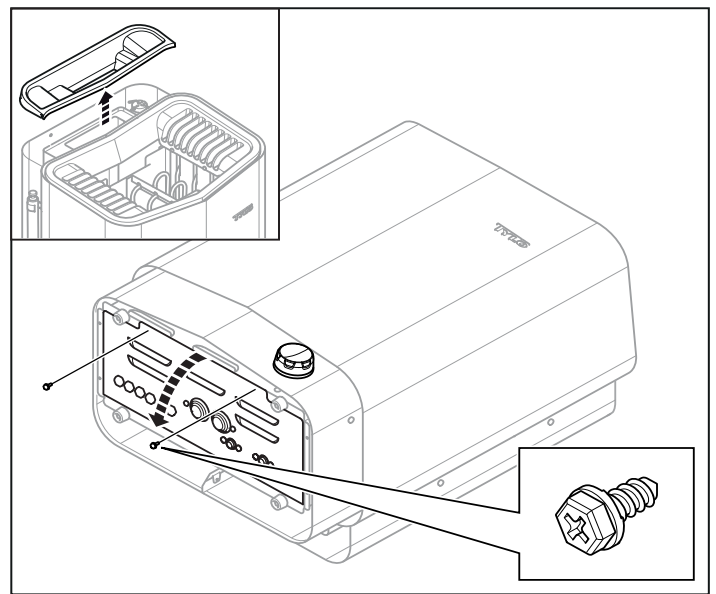

Figure 10: Opening/closing the cover
2. Remove the cover to the water reservoir and lay the heater down with the front facing upwards (see Figure 10).
3. Undo the screws and open the cover (see Figure 10).
8. Close the cover and tighten the screws (see Figure 10).